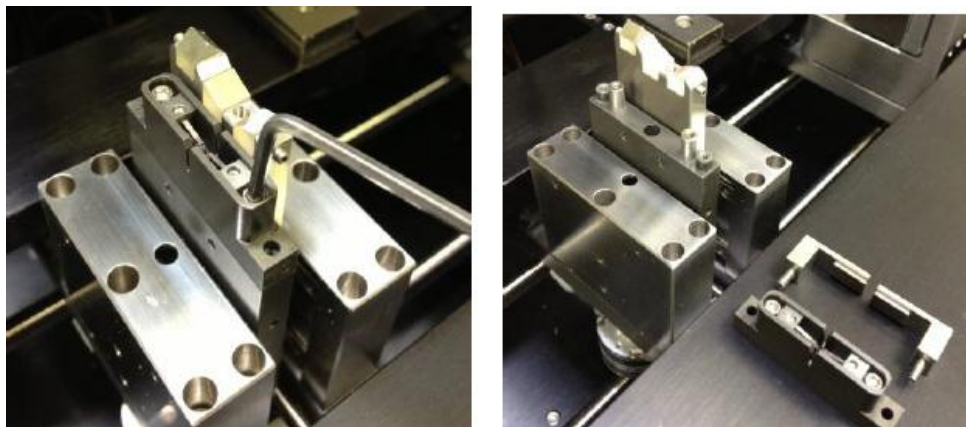

Figure 51 Remove filament body screws using a 5/64" hex key or balldriver.
7. Remove the 2 screws that secure the filament to the furnace body using a 5/64" hex key or balldriver (See Figure 51).